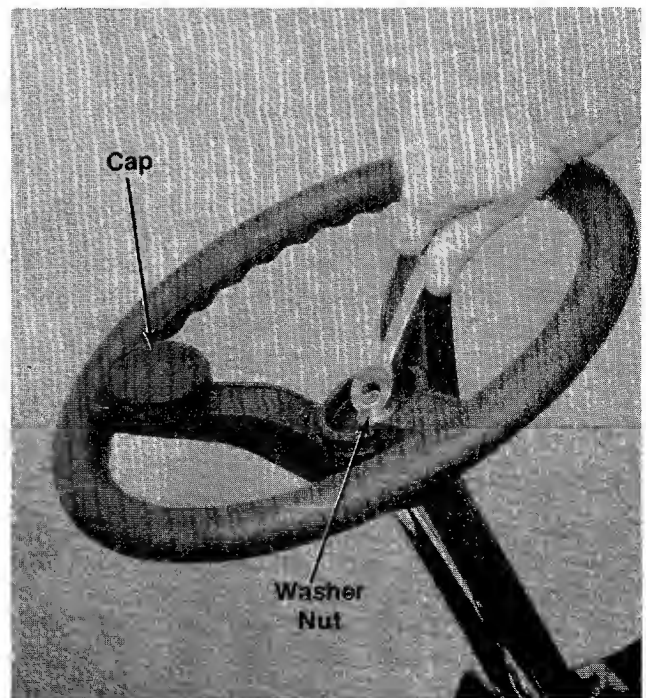

Figure 5
5. Place the washer with the cupped side down over the threaded end of the extension and tighten the nut. (See figure 5.)